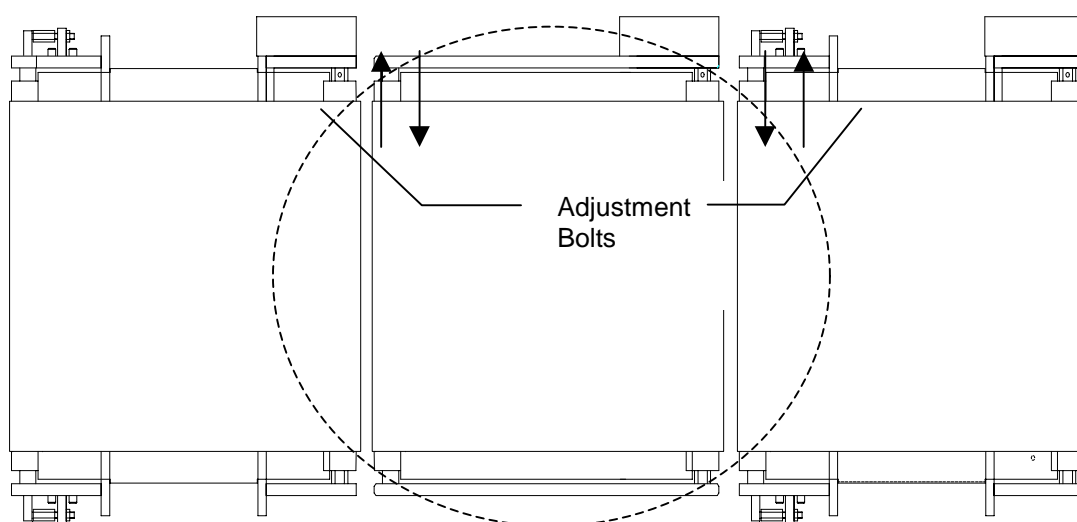

Figure 8.3 Weigh Platform
1. Check that there is no build-up of debris on the weigh platform (see Figure 8.3).